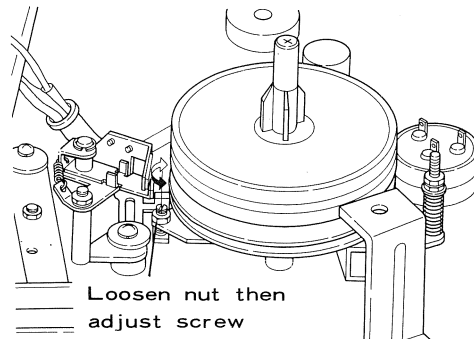

Fig. 12
5. If proper reading is not obtained, refer to Fig. 12. Turn the torque adjustment screw after loosening the locking nut. Clockwise rotation increases torque. After this adjustment, tighten locking nut securely.